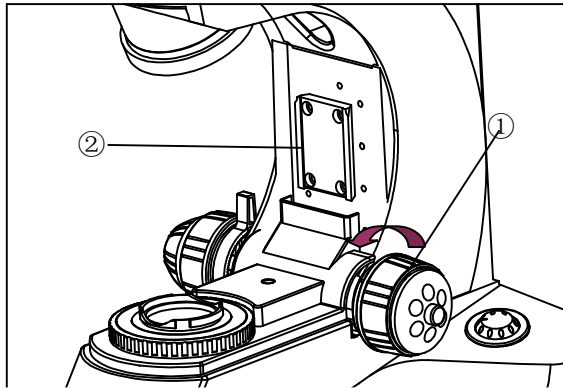
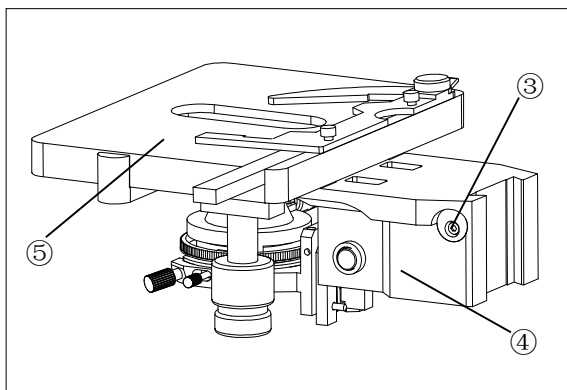

Figure 1
Figure 2
★ Before installing the device, be sure to adjust the coarse focus knob ①. Make the guide board ② (see figure 1) down to the lowest position, so you can install the mechanical stage support device easily.
✧ Hold on the mechanical stage support device (figure 2), place it from the top of the guide board (figure 1), let the device (figure 2) falling free until it reach the limit position. Use the hexagon wrench screw down the locking block ③, make the stage support device (figure 1) and the guide board fixed together.